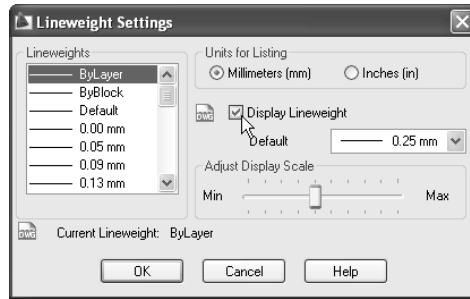

Figure 12.30
1. Choose Format → Lineweight from the Menu Browser, make sure the Display Lineweight check box is selected in the Lineweight Settings dialog box, and click OK (see Figure 12.30).